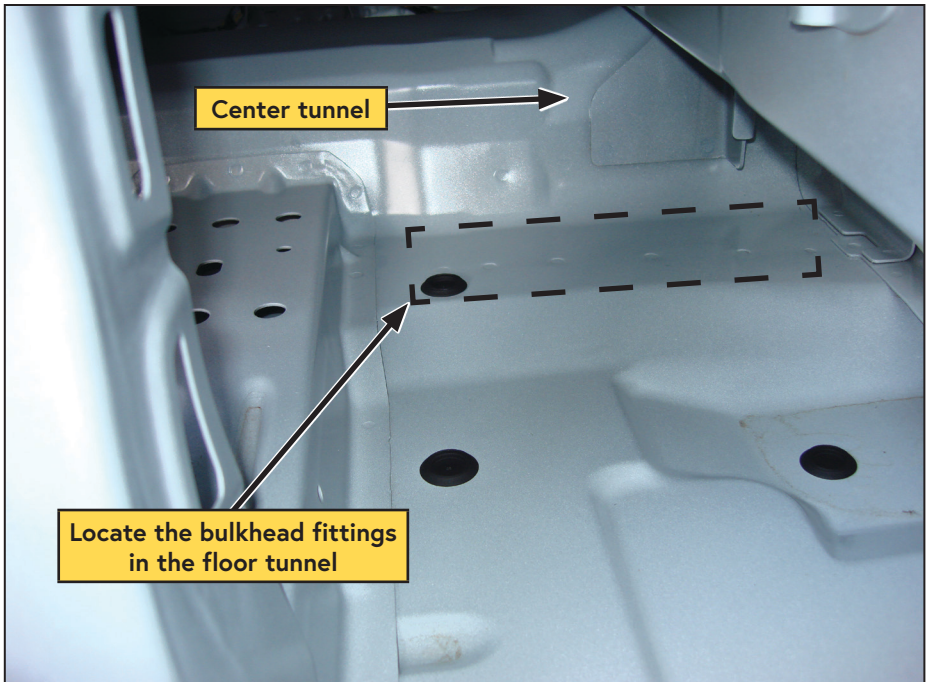

Figure 21 — Floor tunnel
- Install the bulkhead fittings in the floor tunnel. These instructions are continued on the next page (Figure 21).